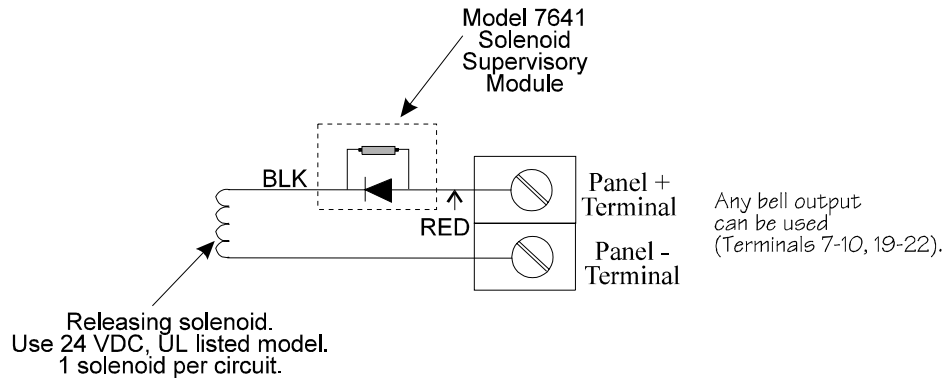

Figure 3-25. Releasing Solenoid Installation
1. Wire as shown in Figure 3-25. You must use Silent Knight Model 7641 Solenoid Supervisory Module.